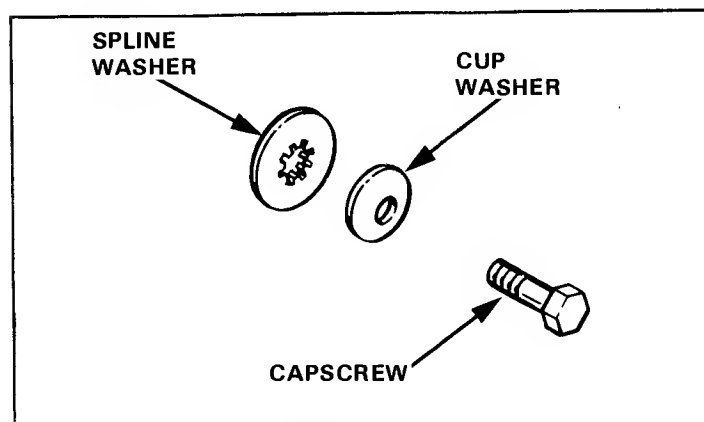

Figure 12. Blade Hardware
1. Reinstall the blade(s) with the tabs pointing upward. Install the spline washer, cup washer, and capscrew (see figure 12). Be sure the splines on the spline washer are engaged with the shaft splines. Be sure cup washer is installed with the concave side up.